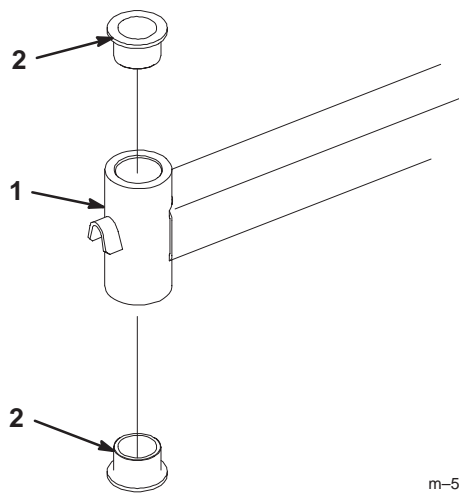

Figure 61
4. Insert a pin punch into the mounting tube and carefully drive out the bushings (Fig. 61). Clean the inside of the mounting tube.
6. Inspect the caster wheel fork for wear and replace if necessary (Fig. 61).